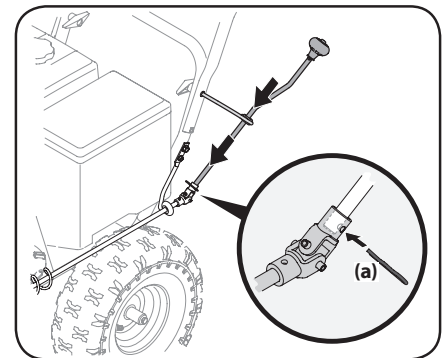

Figure 2-15
2. Insert unattached chute directional control assembly into eye bolt on left side of handle assembly. See Figure 2-15.
3. Line up holes in the end of unattached chute directional control assembly with holes in U-joint attached to lower chute directional control assembly. Insert cotter pin (a). See Figure 2-15. If necessary, bracket securing lower chute directional control assembly to chute base can be adjusted. Refer to Chute Bracket Adjustment in Service section on page 21.